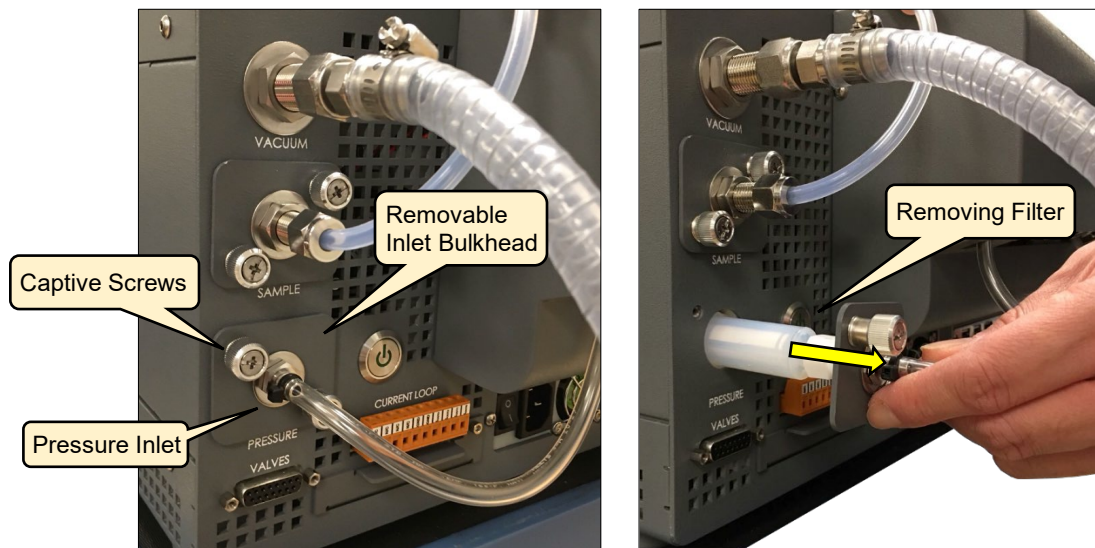

Figure 62: Pressure Inlet Port
2. Release the captive screws (Figure 62) and slide the filter assembly out of the analyzer filter bay. There may be some resistance as the filter is removed. This is due to the frictional resistance of the male quick-disconnect O-rings within the female receptacle.
2. A window displays (Figure 62) prompting the user to confirm the shutdown. Click **Yes** to continue with the shutdown process.